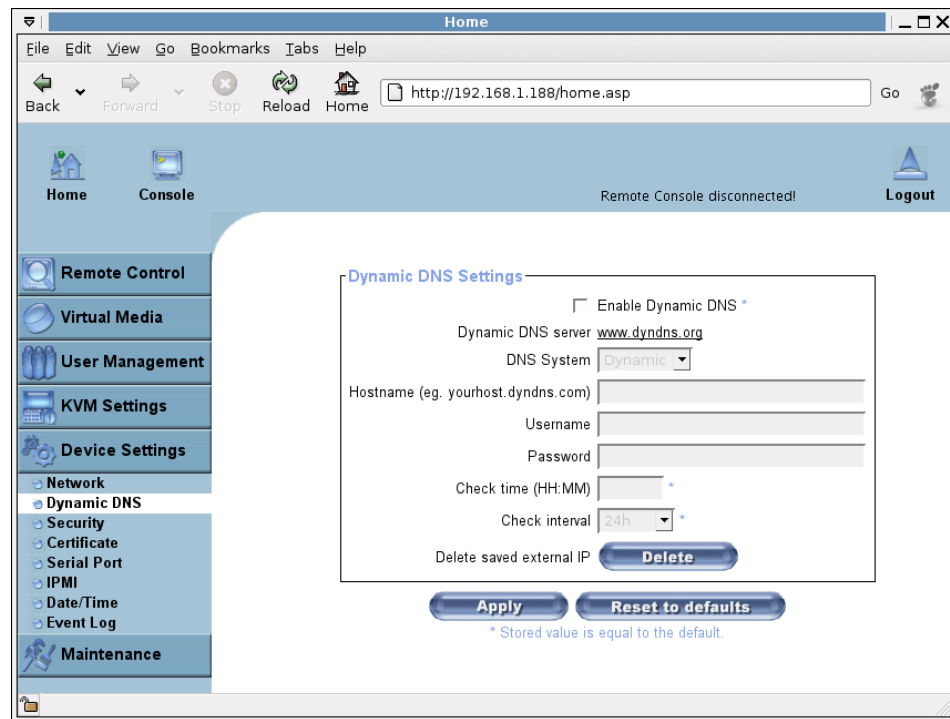

Figure 6-28. Dynamic DNS
- Enter the Dynamic DNS Settings configuration dialog as shown in Figure 6-28.